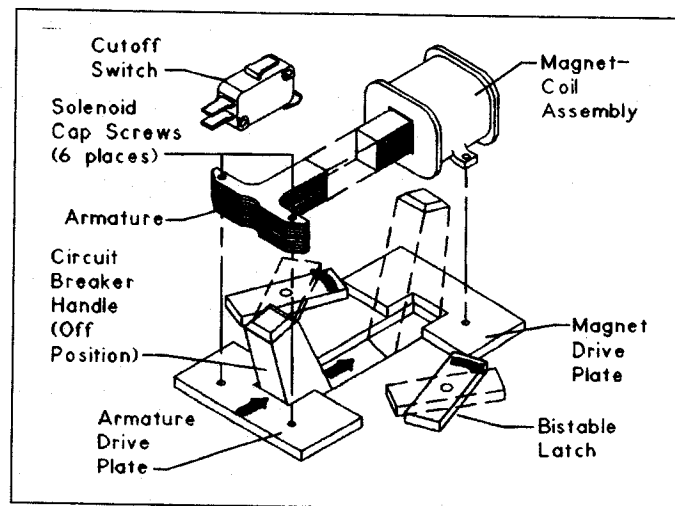

Fig. 1-2. Circuit Breaker Handle in OFF Position
When the circuit breaker handle is in the OFF position (Fig. 1-2), the bistable latch blocks the magnet and allows the armature to move when the coil is energized. When the coil is energized, the armature is drawn to the magnet and pushes the armature drive plate, moving the circuit breaker handle to the ON position. As the circuit breaker handle moves, it toggles a cutoff switch (handle position/cutoff) to disconnect power to the solenoid. The circuit breaker handle movement also toggles the bistable latch so that the latch blocks the armature the next time the solenoid is energized.
- 4-2. Check hardware including solenoid cap screws (see Fig. 1-2) for looseness. Tighten if necessary.